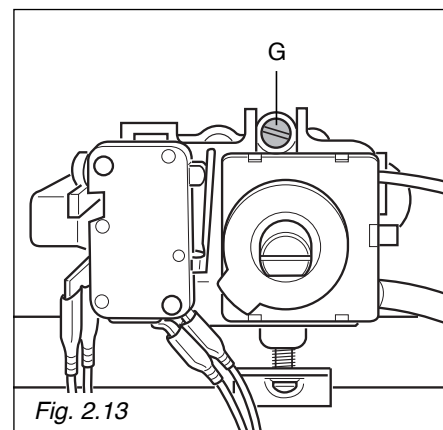

Fig. 2.13
- Remove the knob and unscrew the by-pass screw "G" (fig. 2.13) about three times by passing a small flat screwdriver (Ø 3 mm blade, 100 mm length) through the panel opening.
- After having removed the knob again and being very careful not to turn the tap rod, slowly screw the by-pass screws "G" (fig. 2.13) until you obtain a flame of 3-4 mm in height.